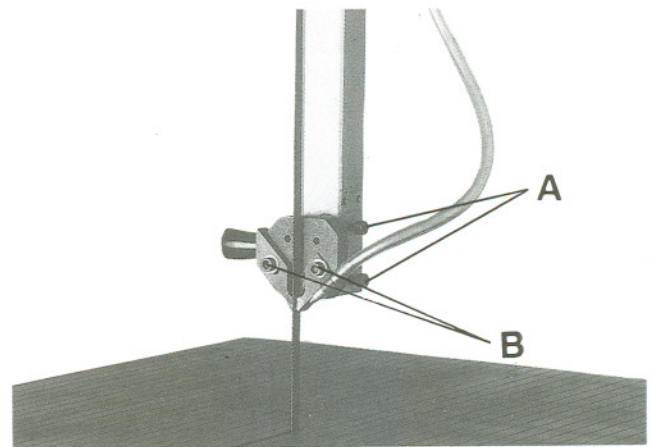

Figure 9
2. Loosen two set screws (A, Fig. 9) and adjust guide so that blade guides are in back of the saw teeth. Blade guides must be adjusted far enough back to clear saw blade even during the cutting operation when the blade is deflected toward the rear.
3. Tighten two set screws (A, Fig. 9).
5. Loosen two hex cap screws (B, Fig. 9) and adjust each finger toward the blade. They should not touch the blade. Adjust for .010" clearance on either side.
6. Tighten two hex cap screws (B, Fig. 9) once proper adjustment has been made. Be sure that adjustment for air nozzle has not changed and it directs the flow of air to the cut.